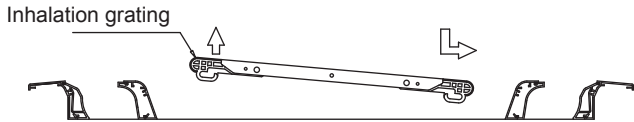

Fig.5-11
- 1) Push the inhalation grating toward one side(non-directional), eg., rightwards as shown in Fig.5-11;
- 2) Press the right side of the inhalation grating and simultaneously push it rightward, as shown in Fig.5-11; at the same time, pull out the left side of the inhalation grating to an angle about 45°;